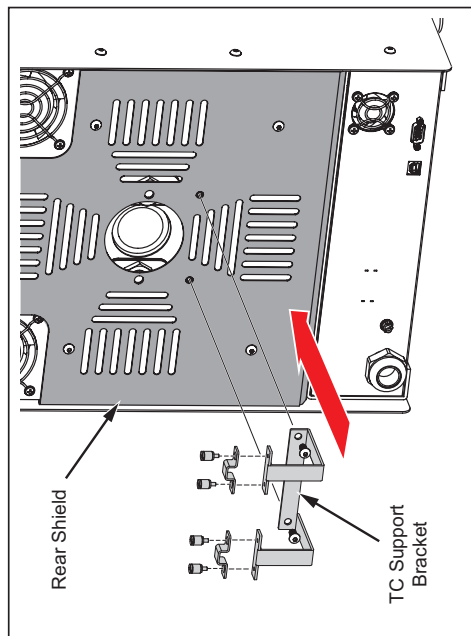

Figure 10. Attach the Support Bracket
5. Install the thermocouple support bracket on the rear shield. See Figure 10.